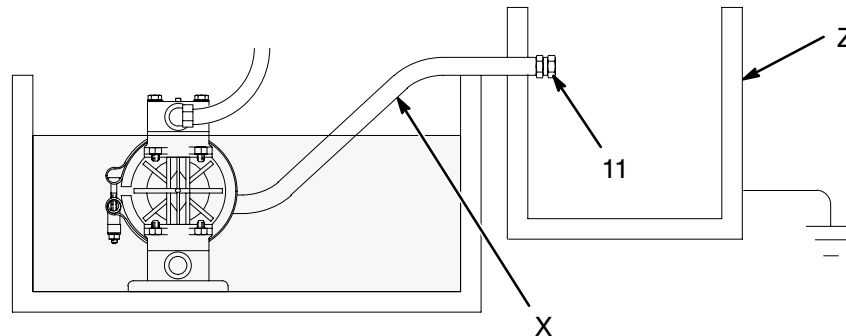

Fig. 6
Diaphragm failure will cause the fluid being pumped to exhaust with the air. Place an appropriate container at the end of the air exhaust line to catch the fluid. See Fig. 6.
2. Install an electrically conductive air exhaust hose (X) and connect the muffler to the other end of the hose. The minimum size for the air exhaust hose is 10 mm ID. If a hose longer than 4.57 m is required, use a larger diameter hose. Avoid sharp bends or kinks in the hose.
3. Place a container (Z) at the end of the air exhaust line to catch fluid in case a diaphragm ruptures. If the fluid is flammable, ground the container. See Fig. 6.